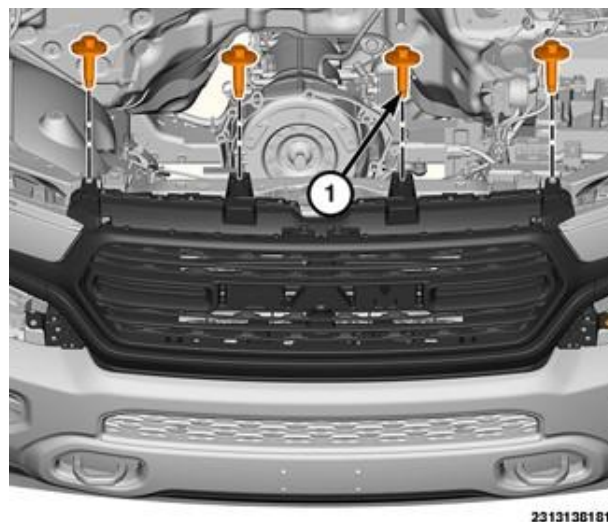

Figure C6 – Upper Grille Carrier
9. Remove and **DISCARD** the bolts from the upper grille carrier (Figure C6).
31. Install **NEW** bolts to the upper side of the grille carrier and tighten to 5 N·m (44 In. Lbs.) (Figure C6).